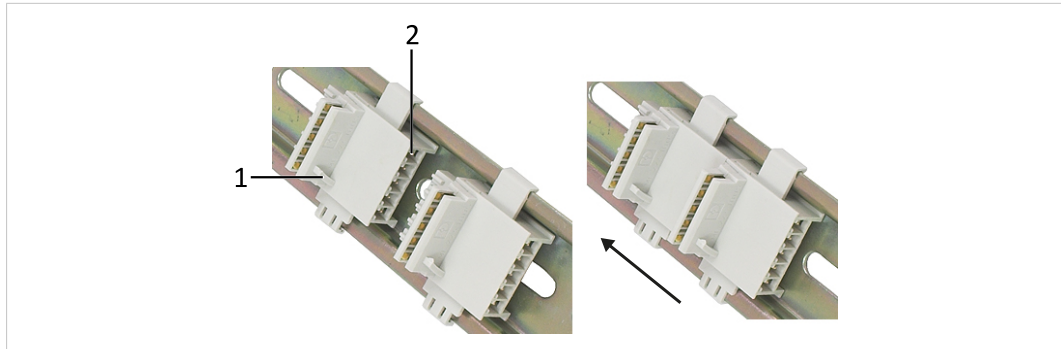

Fig. 4 Mounting the TBUS
- ▶ Observe the guide bar (1) and mount the TBUS plug on the DIN rail according to the desired device installation position (in Fig. 4 the power connector of the CAN Repeater is above).
- ▶ Mount the TBUS connector (3) of the device on the TBUS plug.
- ▶ Make sure, that the guide bar of the TBUS plug (1) mates into the guide bar slot (4) on the device.